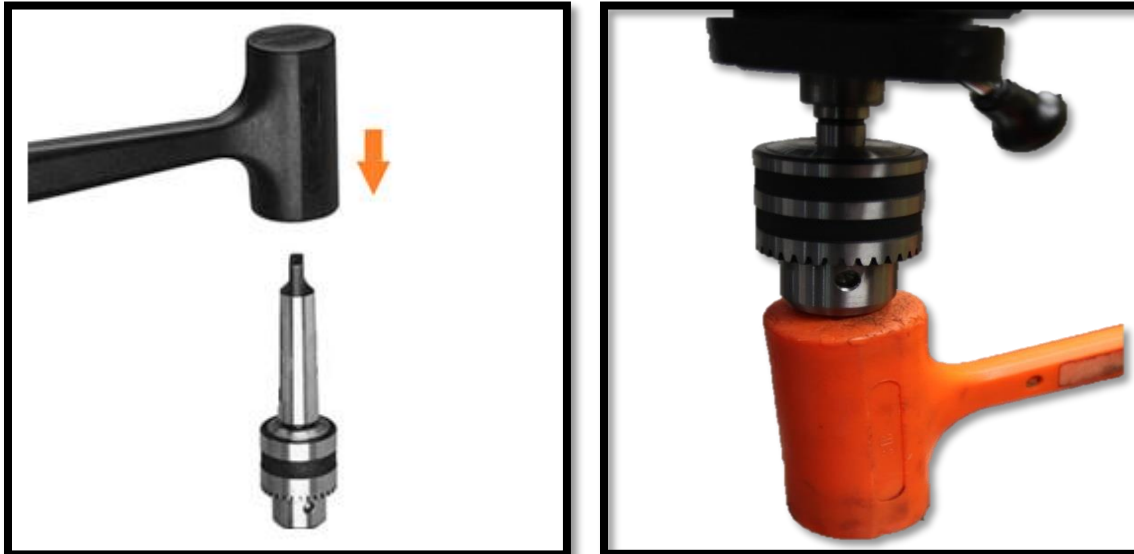

Figure 9 - Seating arbor into drill chuck (left) & Seating arbor and chuck into spindle (right)
2. Slide the arbor into the spindle socket while slowly rotating the drill chuck. The Seating arbor into the drill chuck (left) shown in **Figure 9**.